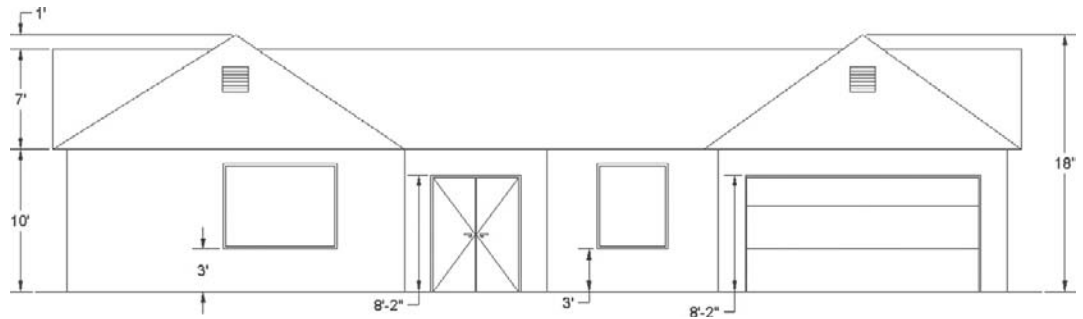

FIGURE 18.23
- Step 2.** Raise the elevation and add the doors and windows according to the provided dimensions, as seen in Figure 18.23. For simplicity, some details, such as gutters, are missing.